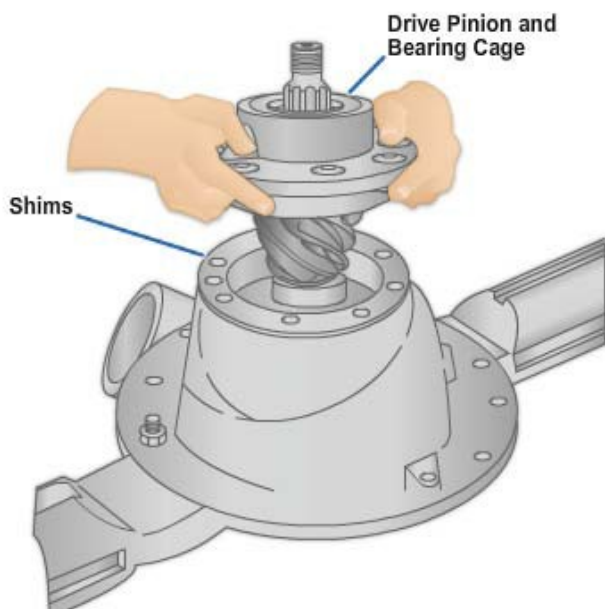

Figure 8-77 - Removing the drive pinion and bearing cage.
7. Remove the drive pinion and bearing cage, plus the shims from the carrier (*Figure 8-77*).